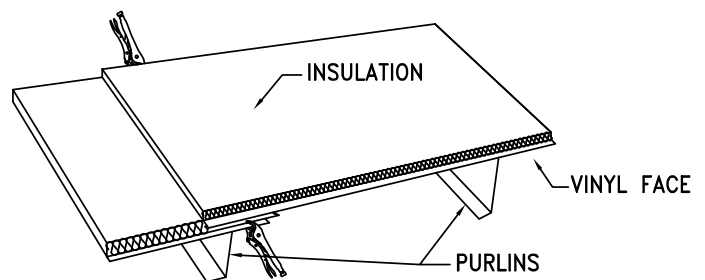

FIG. 1
2. Wall insulation should extend from top of eave strut to 40 mm below finished floor. Clamp insulation to eave strut as shown in Fig 1, page 71, pull facing tight and hold in place until wall panel is attached.